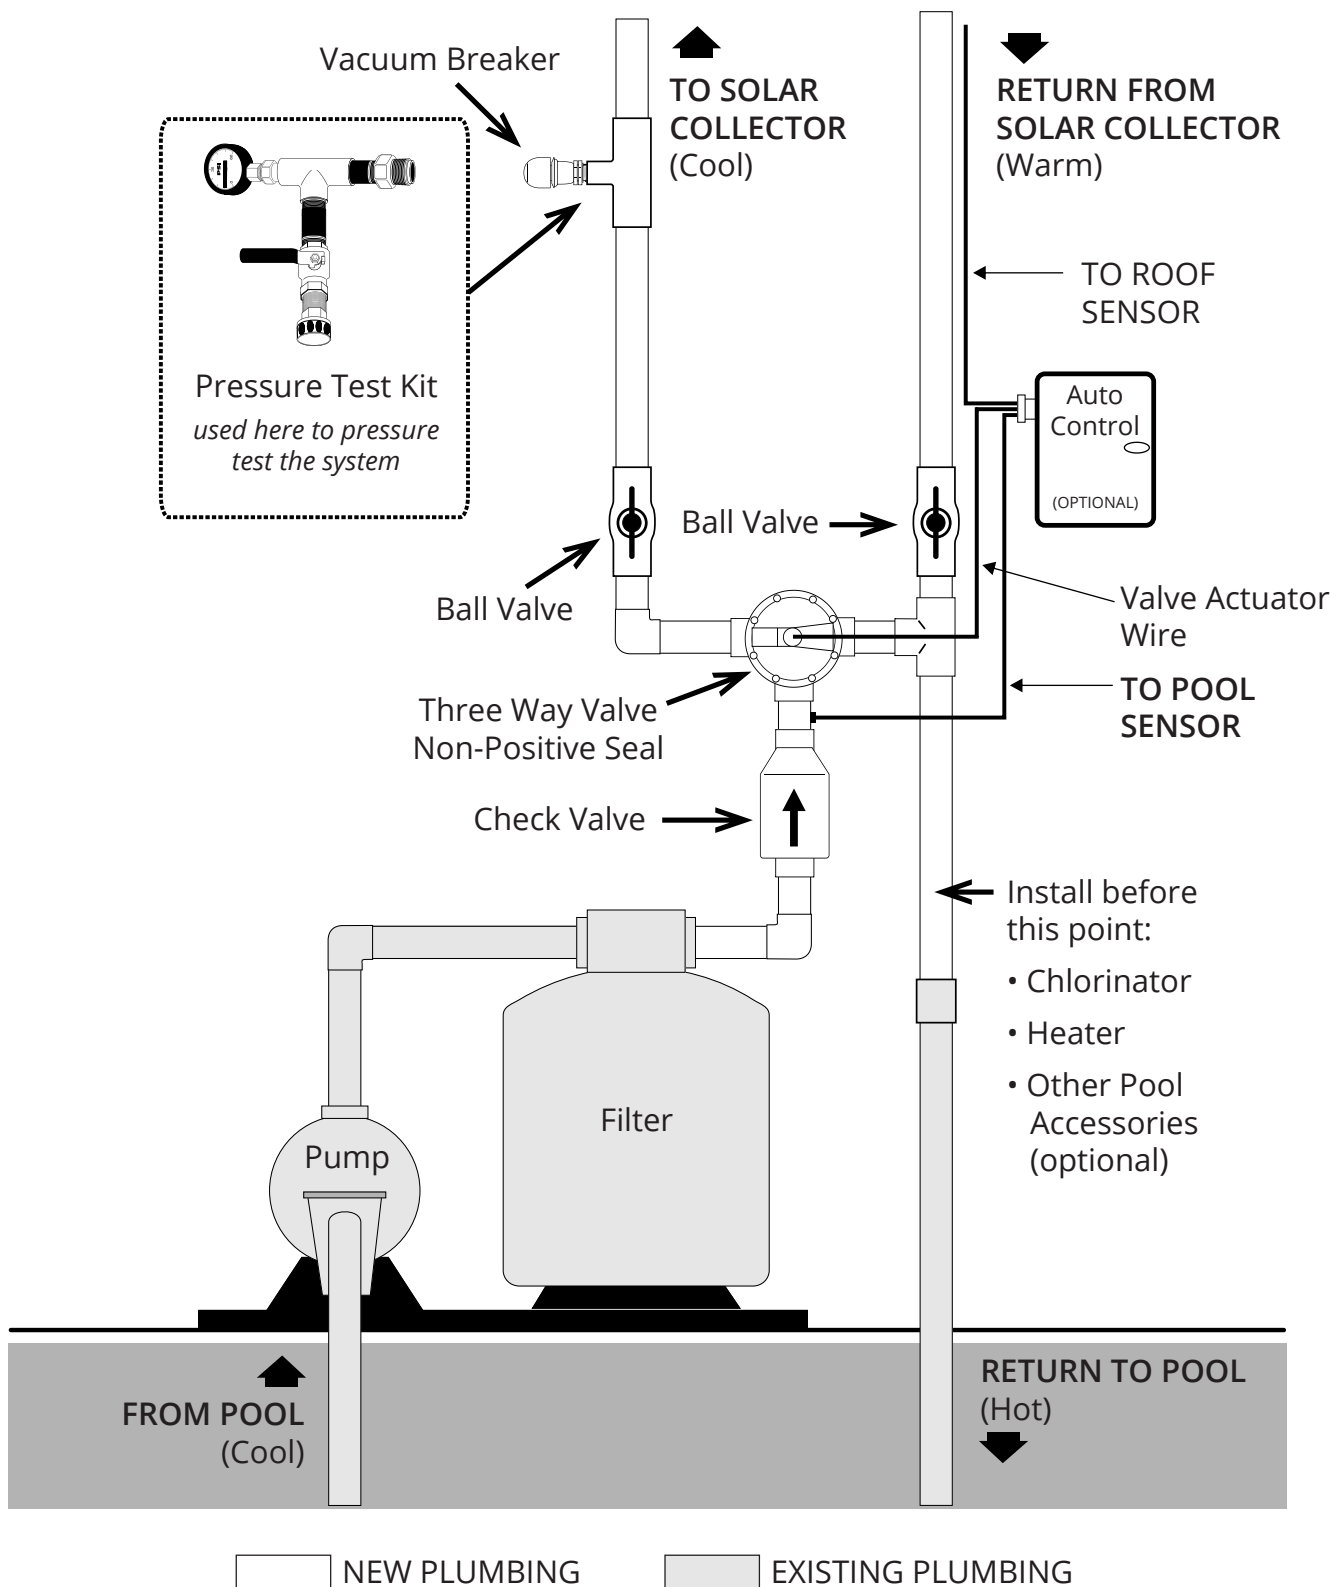

Fig. 13
3. Cut the pipe after the filter at the location where the solar loop will interconnect. There should be enough room to plumb in a check valve and tee as shown in Fig. 13.
5. The three-way diverter valve should be installed after the check valve. It is advisable to install the valve in the standard position with the common port facing the check valve as shown in Fig. 13. This will allow for installing an actuator motor without having to reset the cams for automatic systems.